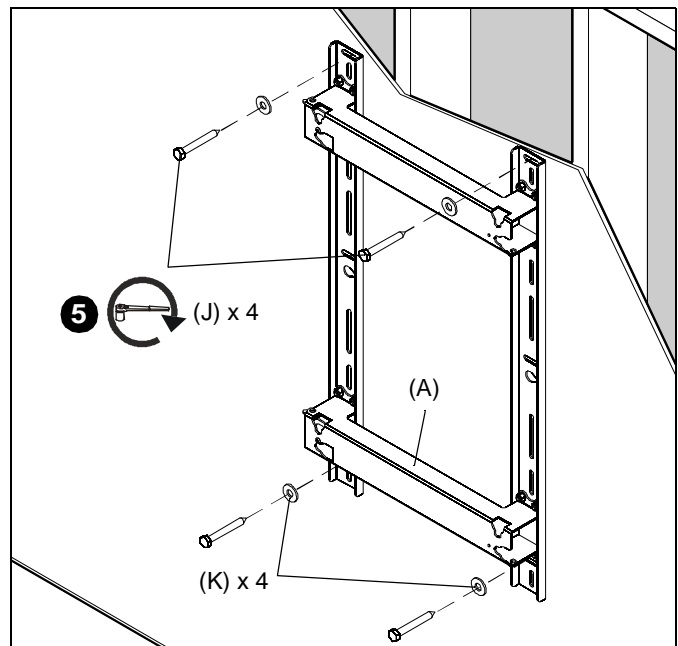

Figure 15
5. Secure wall mount (A) to studs using four 5/16 x 2-1/2" hex head lag screws (J) and four 5/16" flat washers (K). (See Figure 15)